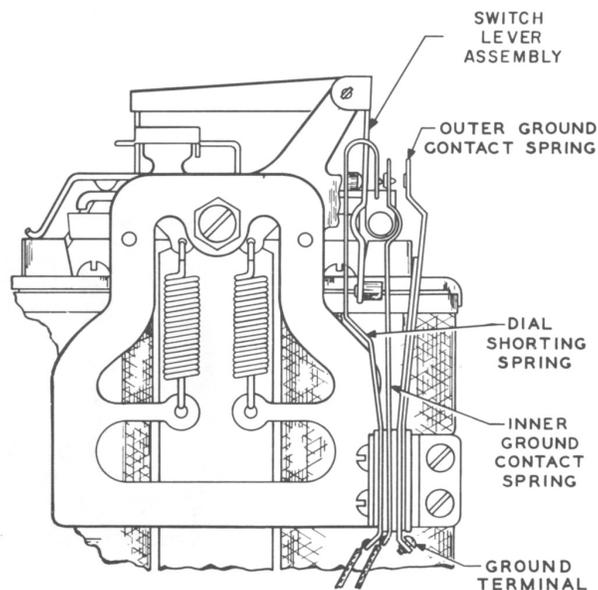

Fig. 4 - D-96590 Dial Shorting Relay, 3-Spring (Guard Cut Away)
4.04 With coin trigger and operating arm in normal unoperated positions, dial shorting contact springs should have perceptible follow. With coin trigger tripped, they should be open; judge visually. (See Fig. 4 and 5.)